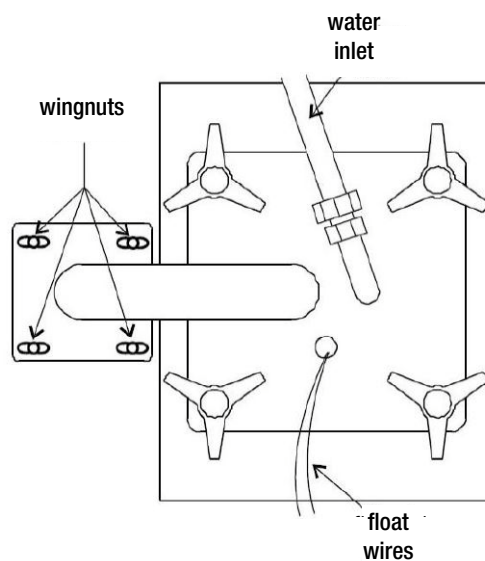

Figure 13-3 Access to Steam Generator
4. When the steam generator has cooled, remove the four thumbscrews and wingnuts (Figure 13-3).